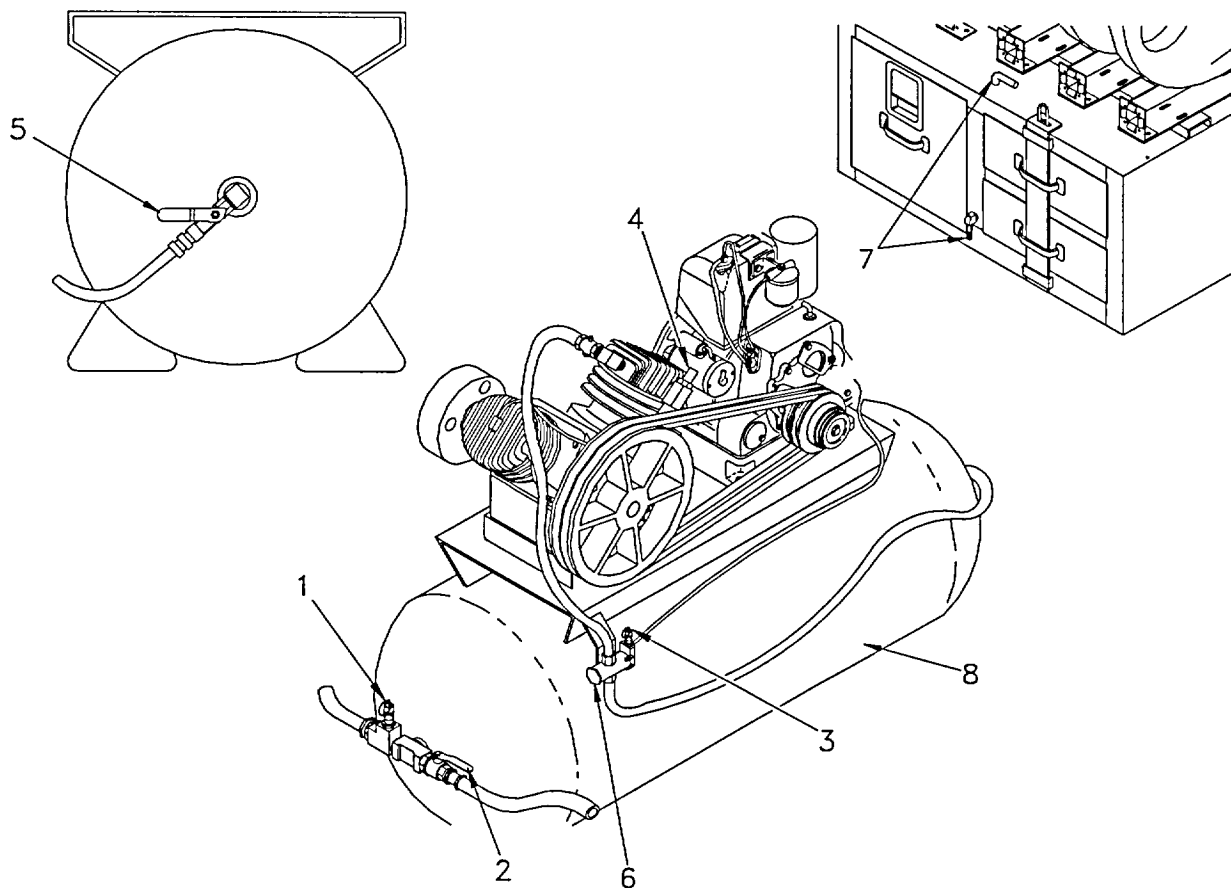
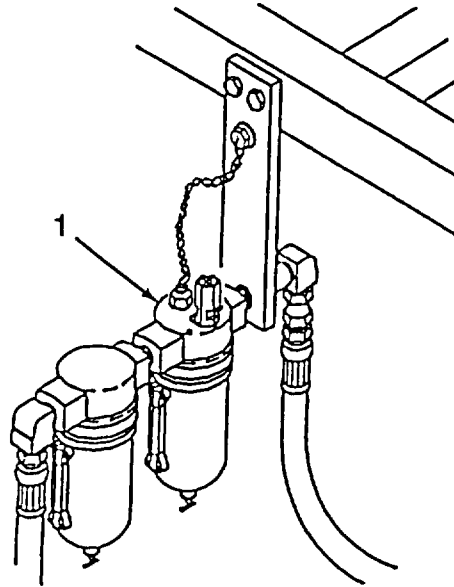

Figure 2-3. Air Compressor Assembly Controls and Indicators
Figure 2-4. Alcohol Injector Control Valve
c. Air Compressor Assembly. (Refer to Figure 2-3).
- (1) Spring-Loaded Pressure Relief Valve (1). An emergency device that relieves air pressure exceeding 200 psi. Without this device the tank could explode.
- (2) Ball Valve (2). Shuts off all air to pumps.
- (3) Adjustable Pressure-Actuated Mechanical Control (3). Stops the compression of air when the receiver tank pressure has reached 175 psig and starts the compression of air when the tank pressure has dropped to 140 psig. Air in excess of 175 psi is released into the atmosphere.
- (4) Spring-Loaded Interstage Pressure Relief Valve (4). Protects the low pressure cylinder of the air compressor in the event of failure of the high pressure cylinder.
- (5) Shut-off Valve (5). When closed, will shut off air to tank and isolate tank from the adjustable pressure-actuated mechanical control (6)
- (6) Automatic Unloading Device (6). Protects the engine from starting against either tank pressure or compression in the compressor cylinders by relieving cylinders of air.
- (7) Condensate Removal Valve (7). Completely drains the tank of all moisture. Drain daily.
- (8) Air Receiver Tank (8). Stores compressed air created by compressor.
d. Alcohol Injector. (Refer to Figure 2-4).